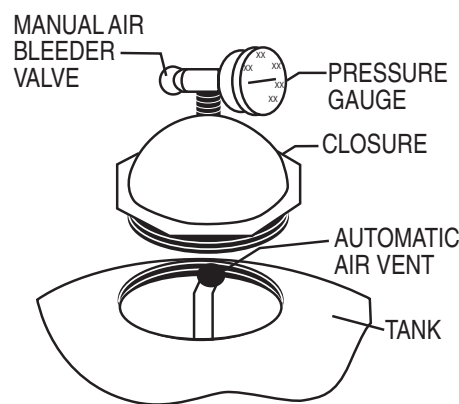

Figure 1.
10. Pivot the diffuser out of the center of the tank on the TR40, 50, 60, TR60 ClearPro, 100 & 140 by rotating the diffuser assembly counter clockwise. (**NOTE:** The multi-diffuser assembly should not be moved on models TR100HD, TR100C, TR100C-3 and TR140C, TR140C-3. After installing the filter media as described below, check to make sure the tops on the diffusers are parallel to the top of the sand bed.) Fill the tank about half full of water. Pour pea gravel first (if used) and then the sand into the top of the filter at a slow rate so that the impact of the filter media does not damage the laterals. See Table 2 for the proper amounts of sand and gravel. Fill filter to the proper level to maintain freeboard, as shown in Table 2. Pivot the diffuser assembly back to its vertical position if it was moved. Be certain the automatic air vent is protruding into the top of the closure as indicated below in Figure 1. Ensure that the automatic air vent is in the center of the filter closure. Wash away all sand around the threaded opening at the top of the tank.